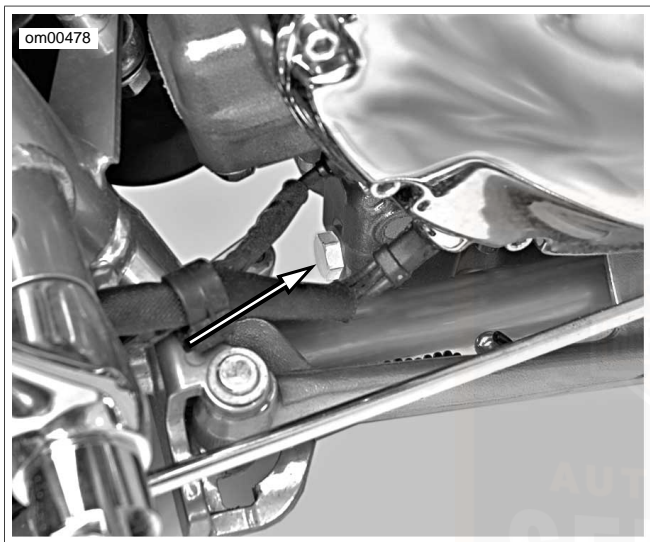

Figure 29. Oil Drain Plug: VRSC Model
1. See Figure 29. Loosen the oil drain plug and completely drain the oil.
6. See Figure 29. Install the engine oil drain plug. Tighten the drain plug to 30-40 Nm (22-30 ft-lbs).